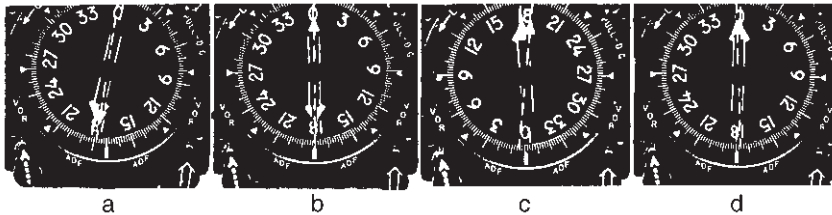

Figure 17-48
23. Refer to figure 17-48. When checking a dual VOR system by use of a VOT, which illustration indicates that the VORs are satisfactory?